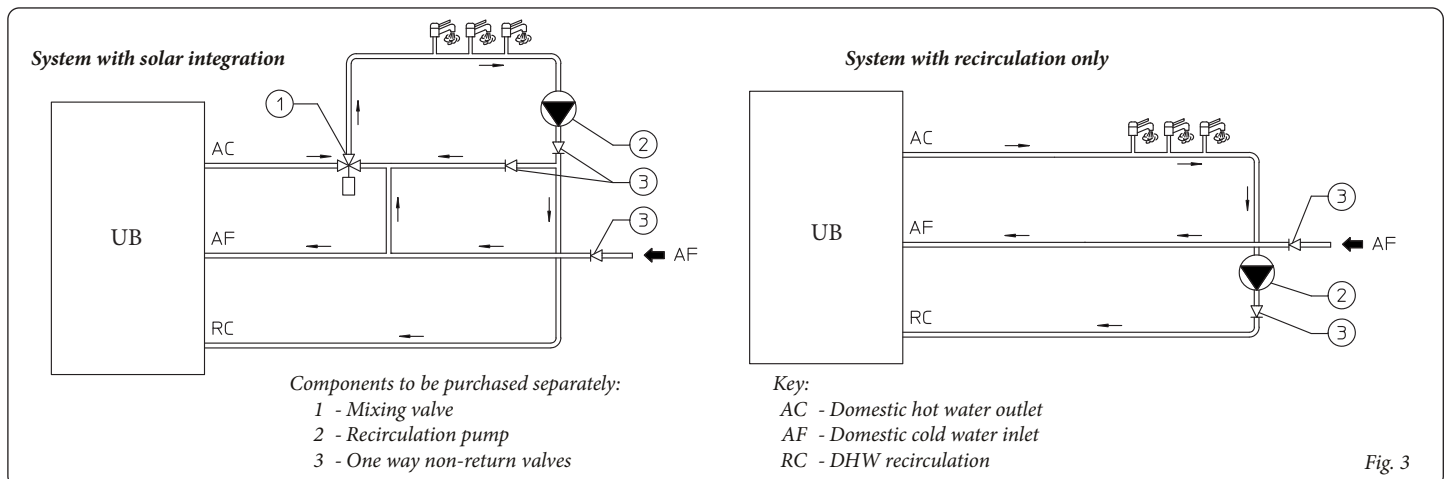

Fig. 3
**Attention:** to guarantee proper operation of the DHW recirculation, we recommend installing a mixing valve (systems with solar integration), one-way valves, and a circulator following the diagrams in figure 3, according to the plant requirements. **The hydraulic diagrams below are only examples. The components described (Ref 1 - 3 fig. 3) are not provided with this optional kit but must be purchased separately.**